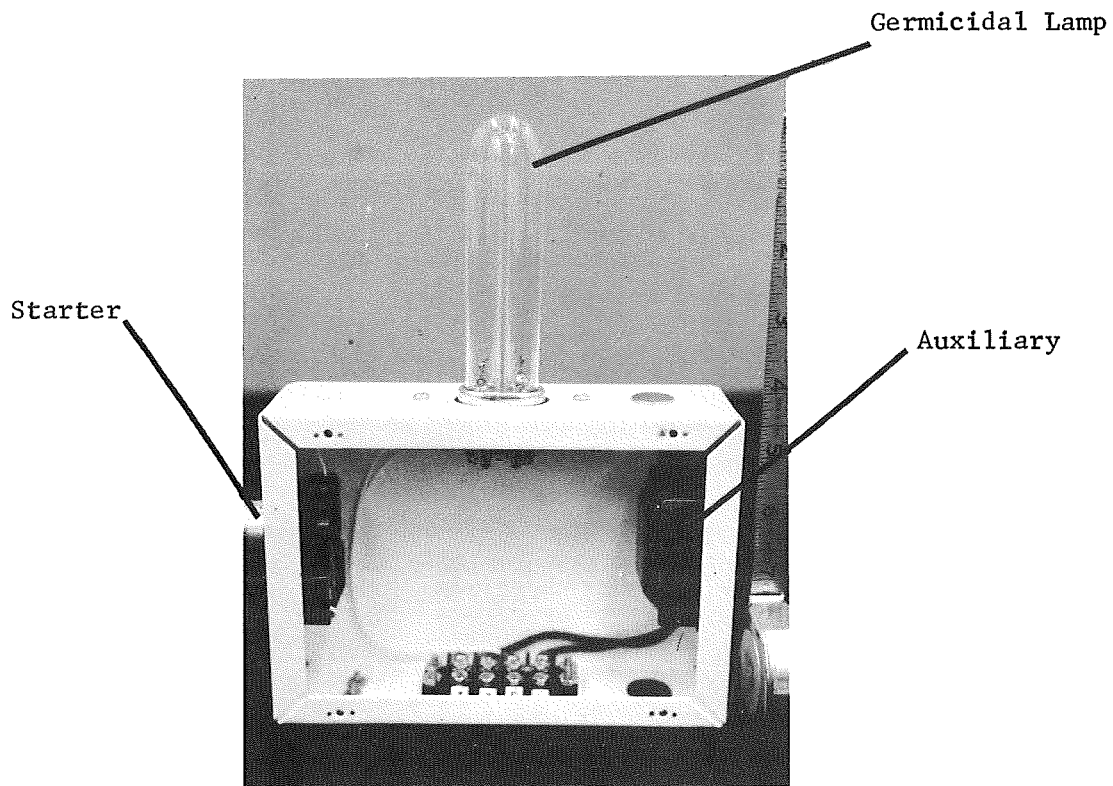

FIGURE 27. GERMICIDAL LAMP ASSEMBLY
4.27 Germicidal Lamp Assembly (See Figure 27)